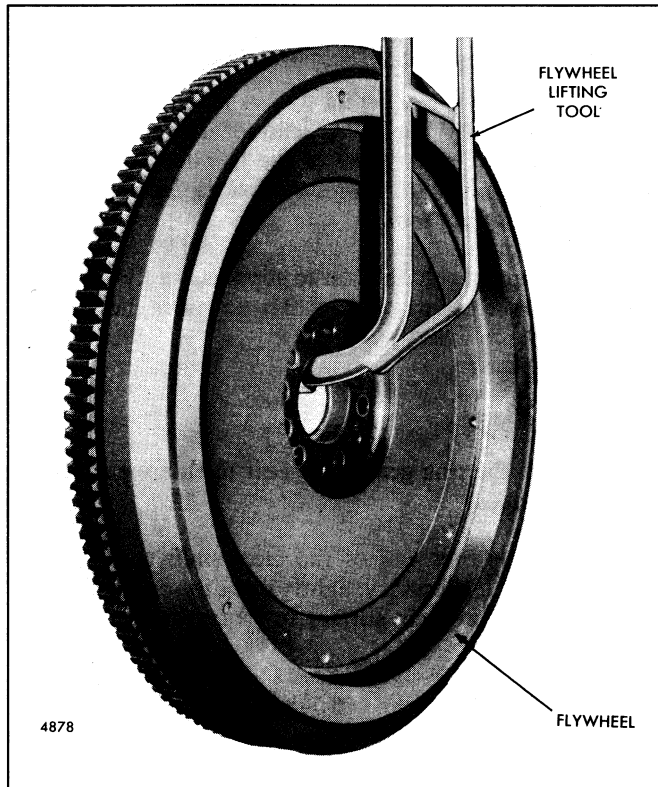
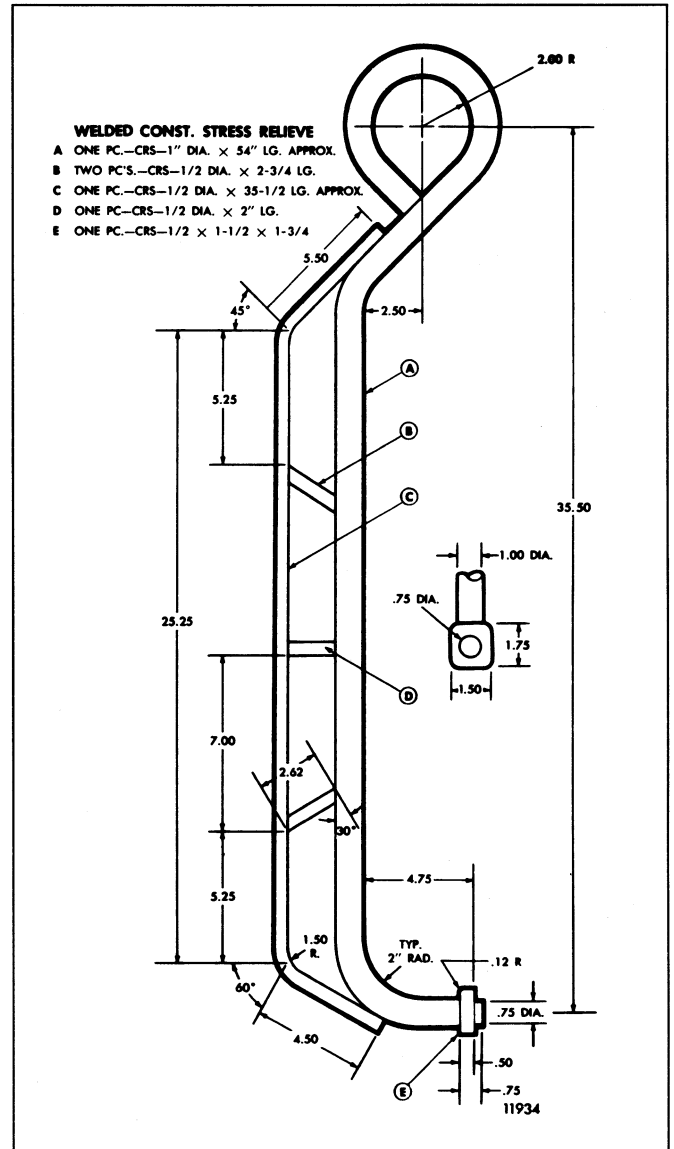

Figure 3 - Removing Flywheel
Fig. 4 - Details for Fabricating Flywheel Lifting Tool
4. Place the flywheel lifting tool in position against the flywheel with the lower end of the tool inserted through the center bore of the flywheel as shown in Fig. 3. Figure 4 illustrates the fabrication of a suitable flywheel lifting tool.